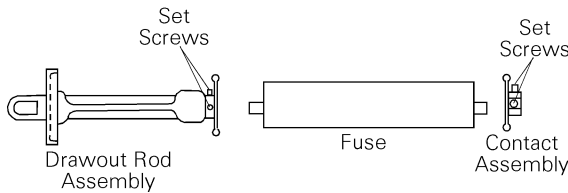

Figure 8. Nonloadbreak fuse replacement.
- 3.** Replace the blown fuse with a fuse of the same rating. To replace the fuse, loosen the two set screws on the draw-out rod assembly and the two set screws on the contact assembly. Remove the fuse and install the new fuse. Tighten the two set screws on the contact assembly and the set screws on the draw-out rod assembly. Figure 8 shows the locations of the parts.